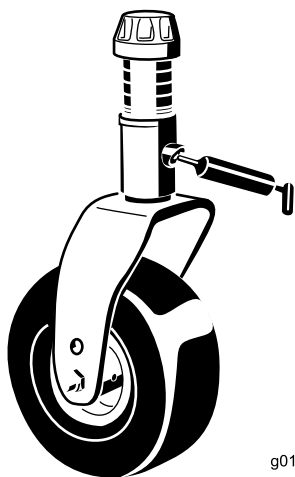

Figure 17
- Caster fork shaft bushings (4) (Figure 17)